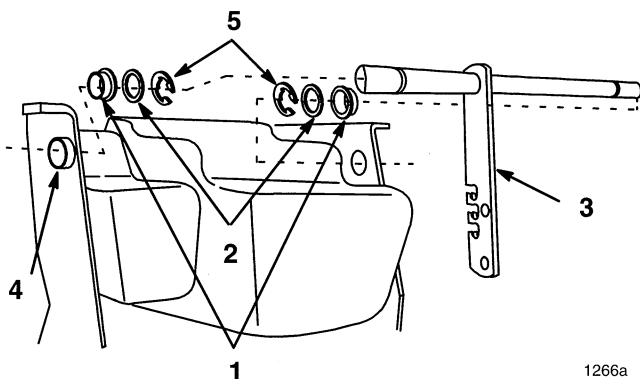

Figure 7
6. Slide a shim washer and bushing onto ends of lift lever rod. (Fig. 7).
7. Position lift lever into frame and slide bushings and shim washers outward into frame holes. Secure in position with E-rings (Fig. 7).